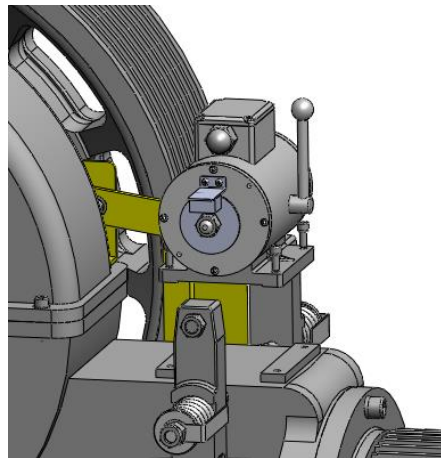

Figure 26 Normal Brake Removal
2. Loosen the hexagonal bolts (4) M8x20 and washers with hex wrench 6mm, and remove the broken brake from gear box. See Figure 26.